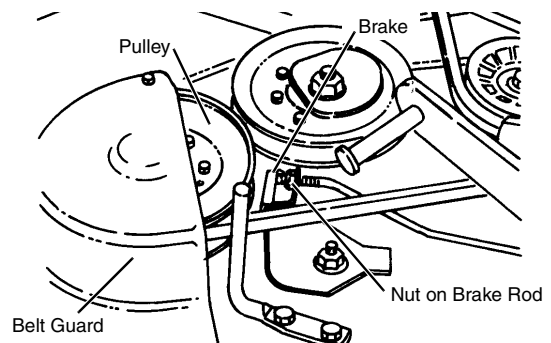

FIG. 25
- Measure the distance from brake surface to pulley braking surface. (See FIG. 25)